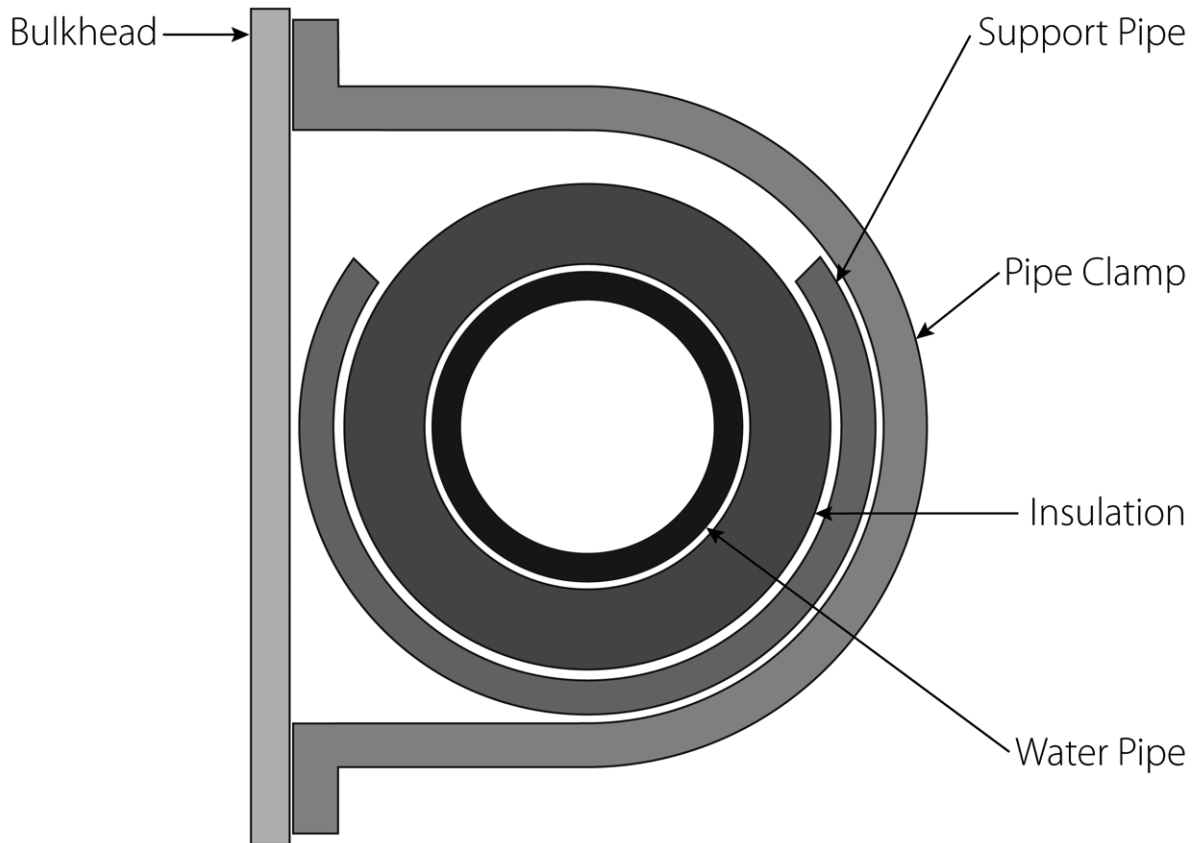

Figure 12
- At no place should the insulation be compressed by the support system. Do not use tie wraps, hose clamps, collars or anything that would compress the insulation. See *Figure 12* for a typical pipe support and insulation installation.